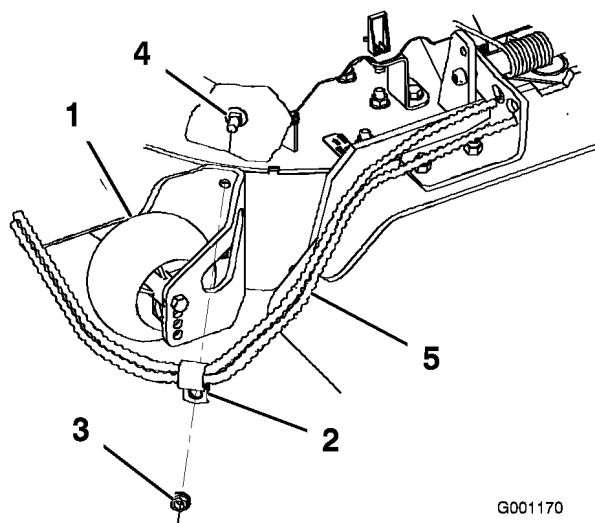

Figure 5
2. Install the large R-clamp to the outside of the mower deck and gauge wheel bracket with a bolt (3/8 x 1 inch) and new locknut (Figure 5).